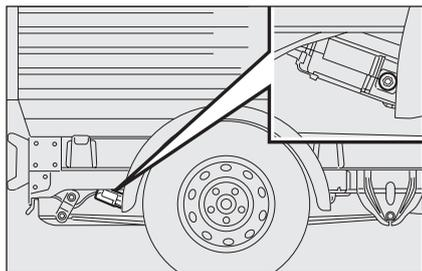

fig. 5
- for chassis-cabs, from the rear right side of the vehicle **fig. 5** use the wrench to operate the wheel-restraining device screw,